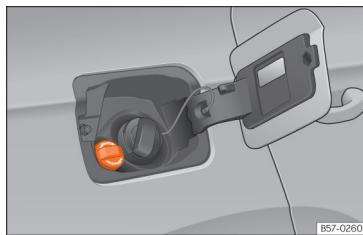

Fig. 187 AdBlue tank cap®.
- Open the tank cover >>> **Fig. 187**.
- Turn the SCR tank cap anti-clockwise >>> **Fig. 187**.